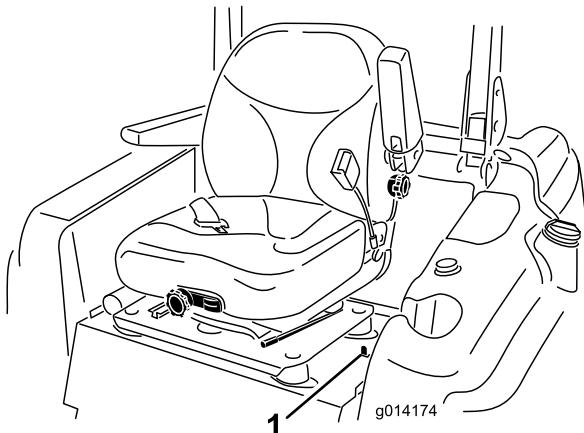

Figure 1
- Move the seat latch (located on the left-hand side of the seat) rearward to unlatch the seat, then pull forward on the top of the seat until the seat tilts forward and contacts the steering wheel (Figure 1).